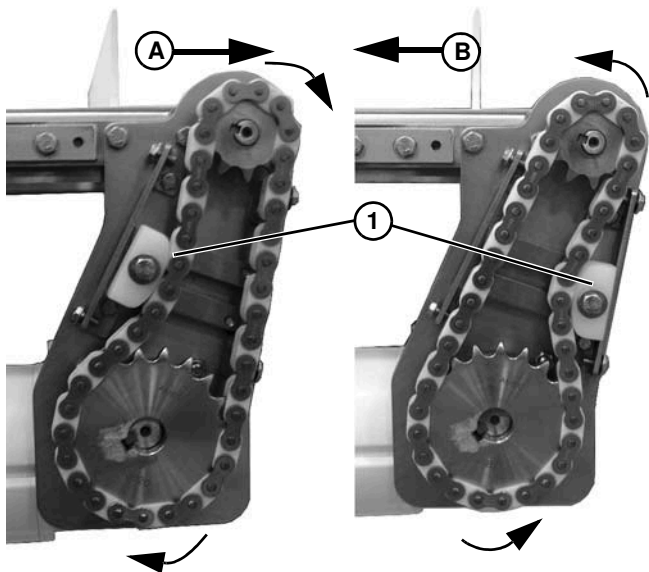

Figure 41
- Depending on conveyor belt travel (direction A or B of **Figure 41**), locate timing chain tensioner (**Figure 41, item 1**) as shown. Do not tighten tensioner screw.